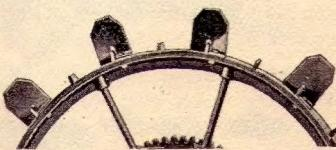

Fig. 263
**Side hill spurs.** Fig. 263. Complete sets of special steel spurs are furnished as an attachment for this machine. They are for extreme side hill conditions, and will hold the digger up to its work.